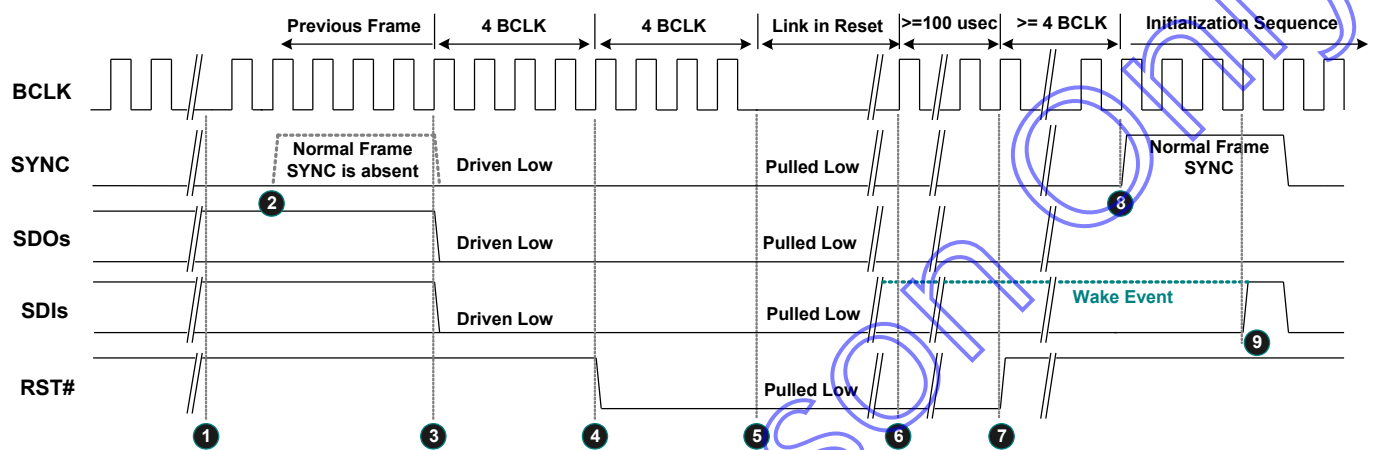

Figure 11. Link Reset Timing
3. Software initiates power management sequences. Figure 11, page 19, shows the 'Link Reset' timing including the 'Enter' sequence (❶~❺) and 'Exit' sequence (❻~❾)